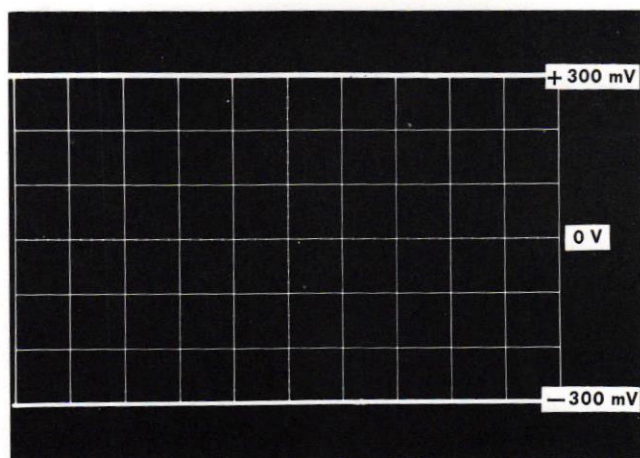

Fig. 6-7. Positioning range of OUTPUT DC LEVEL, with test oscilloscope set to 0.1 v/cm.
d. Rotate the OUTPUT DC LEVEL control throughout its range and check for a positioning range of + and -3 cm ( $\geq$  + and -300 mV). If necessary, readjust R93 so that the + and - ranges of the OUTPUT DC LEVEL control are equal. See Fig. 6-7. Return trace to the center graticule line with the OUTPUT DC LEVEL.